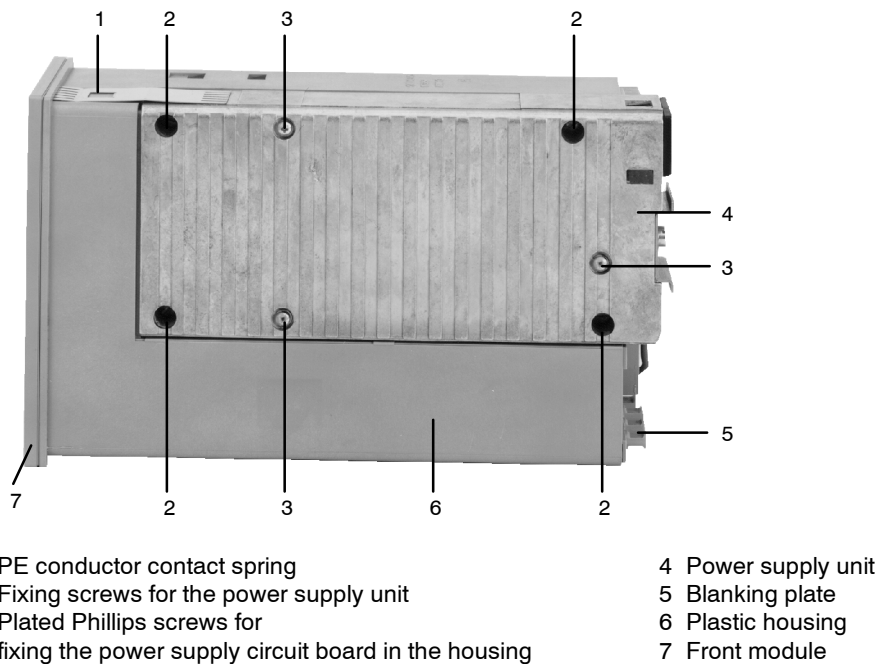

Figure 5-3 Fixing the power supply unit
- Loosen the four fixing screws of the power supply unit (see (2) Figure 5-3) (**not** the 3 plated Phillips screws (3) Figure 5-3) and pull out the power supply unit in screw direction.